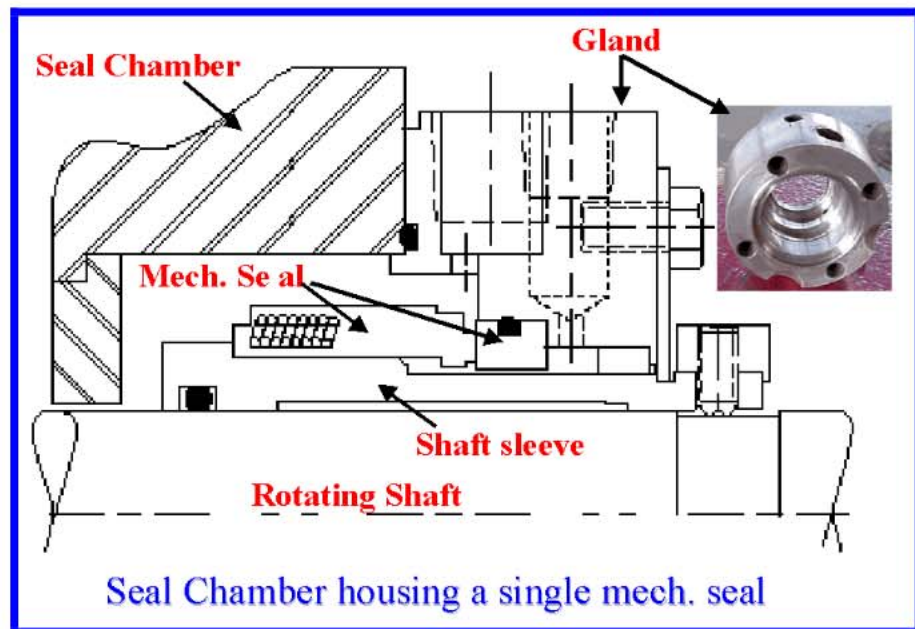

**Figure B.05: Suction and Discharge Nozzle Locations**
1. End suction/Top discharge (Figure B.05) - The suction nozzle is located at the end of, and concentric to, the shaft while the discharge nozzle is located at the top of the case perpendicular to the shaft. This pump is always of an overhung type and typically has lower NPSHr because the liquid feeds directly into the impeller eye.
2. Top suction Top discharge nozzle (Figure B.05) -The suction and discharge nozzles are located at the top of the case perpendicular to the shaft. This pump can either be an overhung type or between-bearing type but is always a radially split case pump.